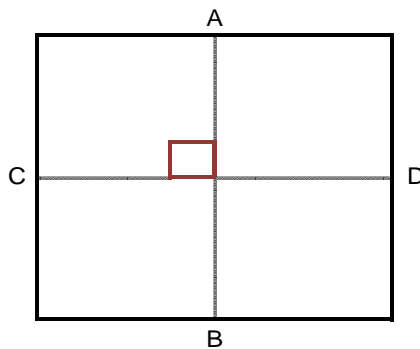

Fig. 1 : draw up median lines so as to locate the exact centre of the room; they will guide installation
- Chalk lines are drawn in order to plan how to start installing and avoid too many cuttings (see. fig. 1).